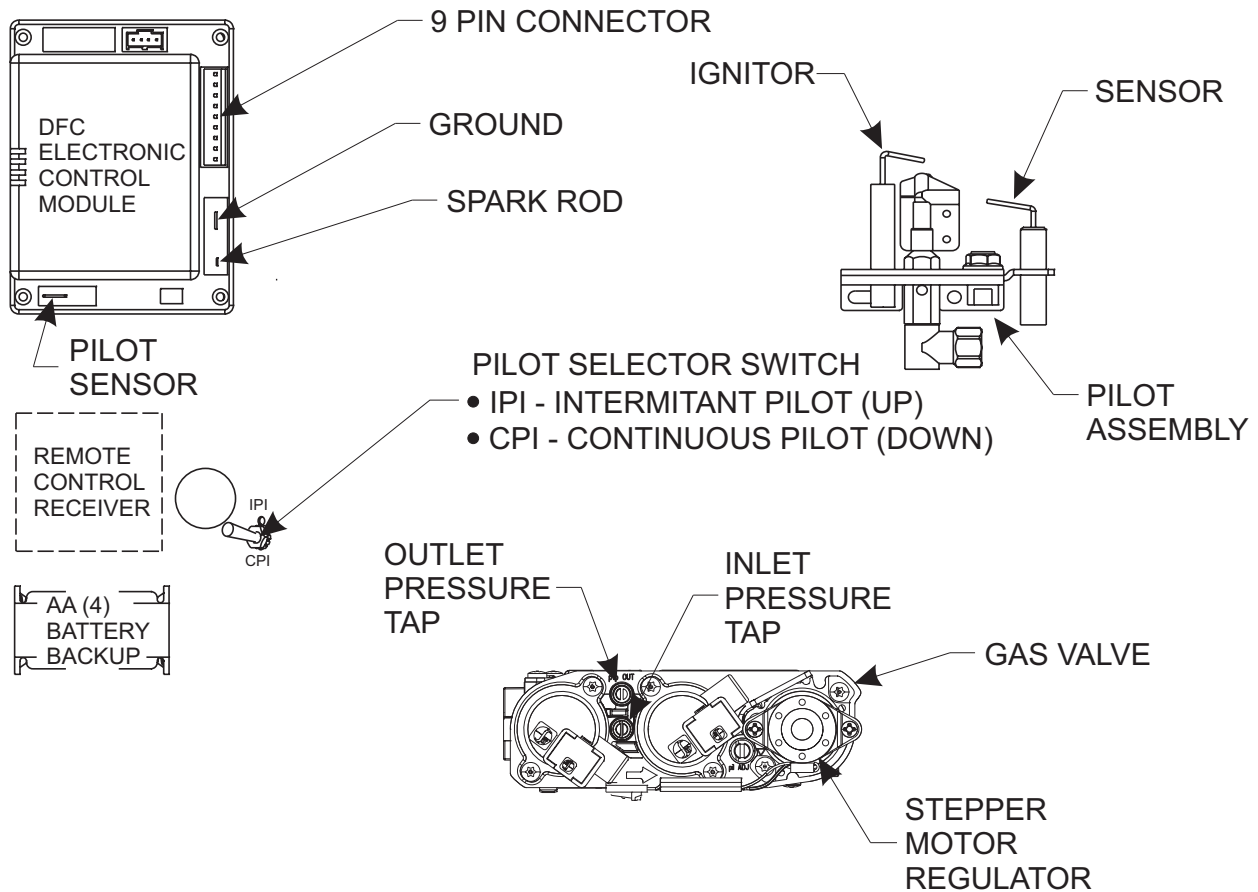

Figure 18
NOTICE: A small toggle switch is located on a bracket that is used to switch from IP (upward position) to the CPI (downward position). See **Figure 18**.
3. The gas valve has inlet and outlet pressure taps as shown in **Figure 18**. Refer to appliance Installation Instructions for gas pressure requirements.